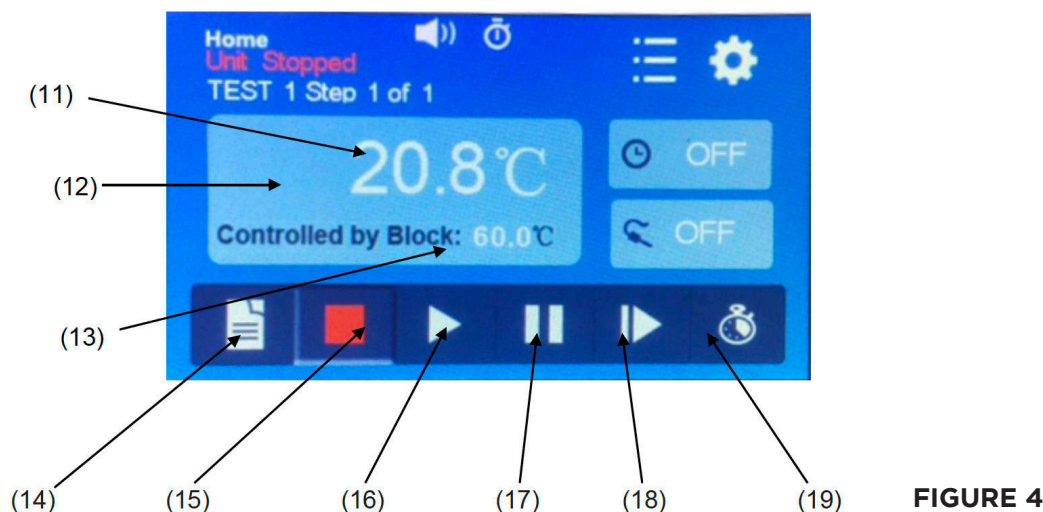

FIGURE 4
4.3 Home Screen Continued (Figure 4)